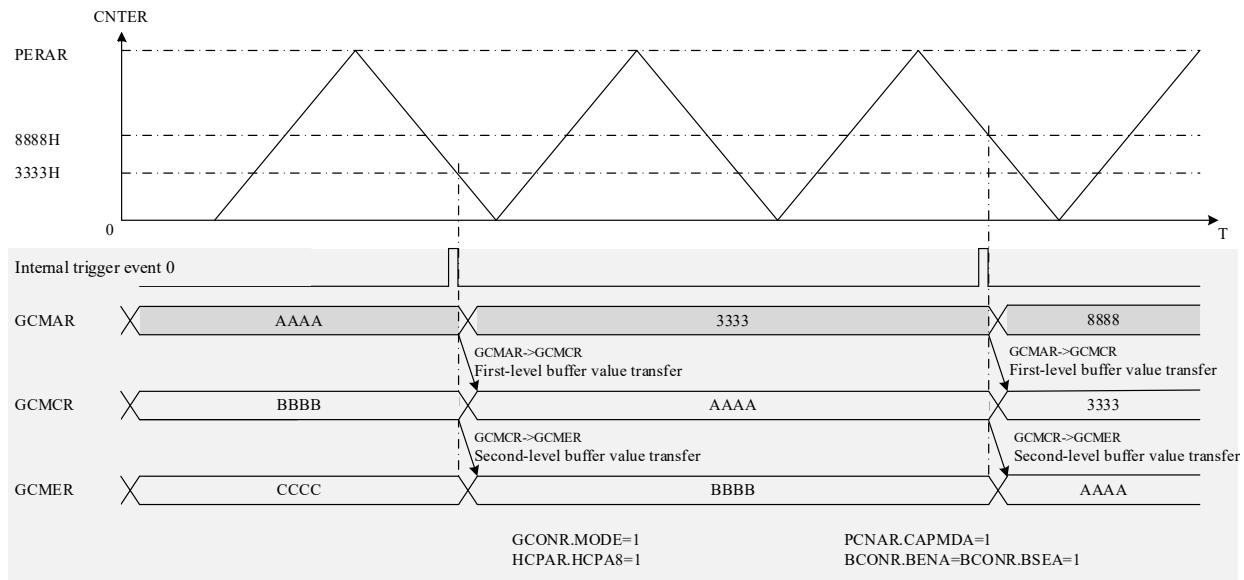

Figure 20-12 Timing of input capture with double buffer
4. The value of the Special Compare Value Buffer Registers (SCMCR, SCMDR) is automatically transferred to the Special Compare Value Registers (SCMAR, SCMBR), and the value of the Special Compare Value Double Buffer Registers (SCMER, SCMFR) are automatically transferred to the Special Compare Value Buffer Registers (SCMCR, SCMDR). Figure 20-12